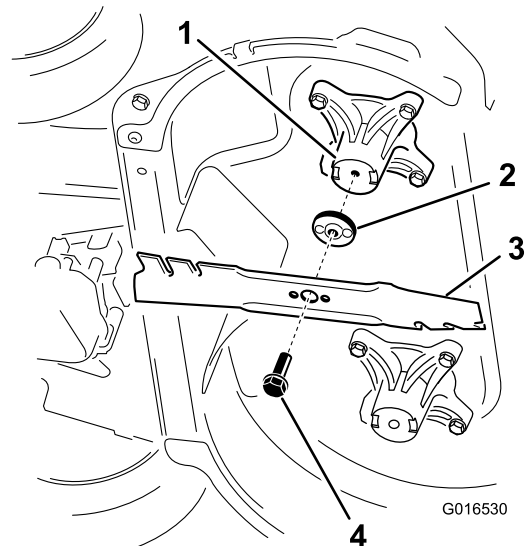

Figure 35
2. Remove each blade as shown in Figure 35.
1. Install the first blade so that it is horizontal, along with all mounting hardware as shown in Figure 35.